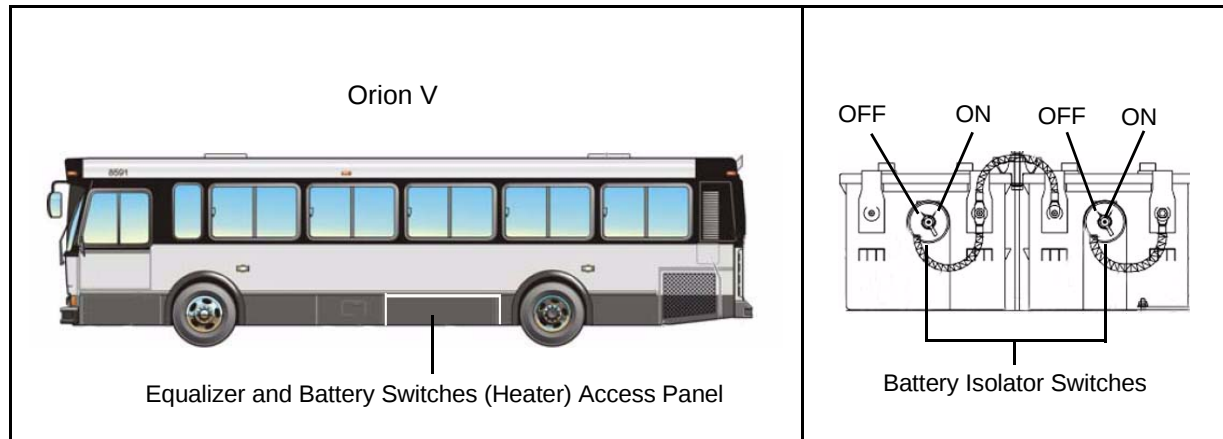

Figure 1-1 Orion V Equalizer Access Panel/Battery Isolator Switches
1. Open the equalizer and battery switch access panel located on the road side of the vehicle. **See Figure 1-1.**
2. Turn the battery isolator switches to the "OFF" position. **See Figure 1-1**
4. Close the battery switch access panel. **See Figure 1-1.**